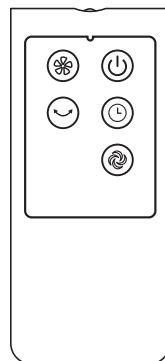

Fig.4
I. I.Controlador remoto (Fig. 4)